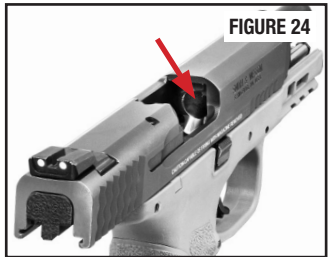

FIGURE 24
- Visually check the chamber and the magazine well to be certain that no cartridges are present (FIGURES 24 and 25).